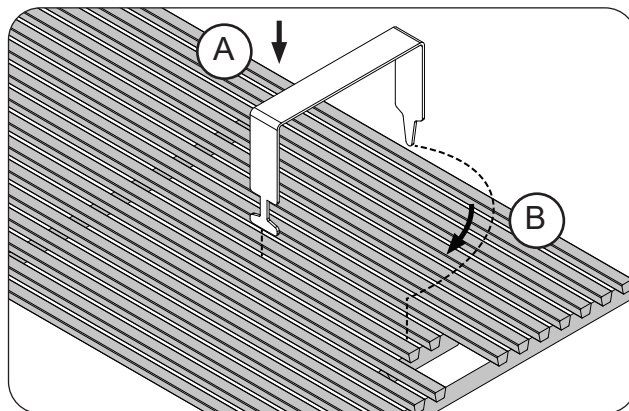
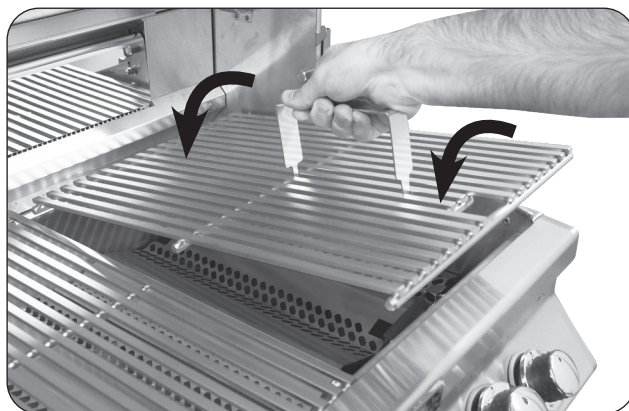

Fig. 31-1 Install cooking grids
Fig. 31-2 Install cooking grids
1. With the prongs facing downward, insert the notched-end of the lifter between two grid rods, then rotate, as shown in Fig. 31-1, A & B.
2. Insert the rear pointed-end of the lifter between the same two rods (Fig. 31-1, B) and carefully lift the cooking grid and place onto the front and rear grid rests of the grill (see Fig. 31-2). Repeat for all other cooking grids.